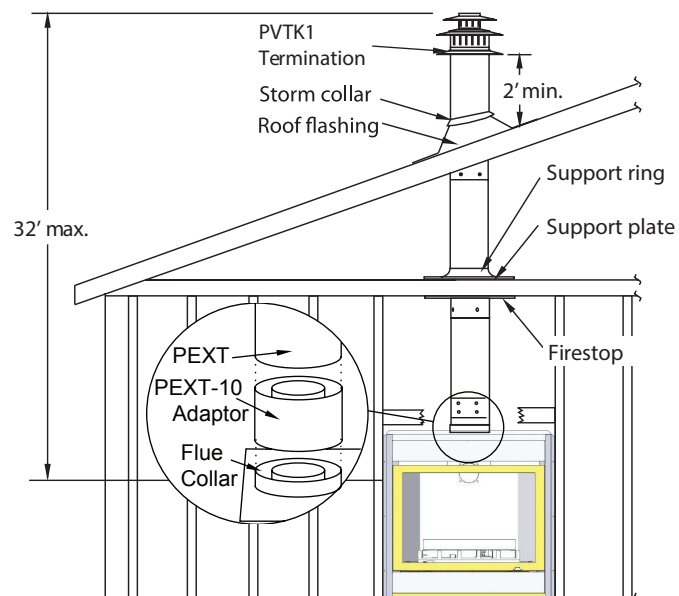

Figure 10. Top vent, Roof mounted termination with no offset in vent run.
- The Vertical termination must be a minimum 2' higher than where the termination exits the roofing materials, (asphalt shingles, cedar shakes, etc). This distance should be measured from the high side of the roof slope where the flue flashing intersects the roofing materials. (see Figures 10 to 10c ).